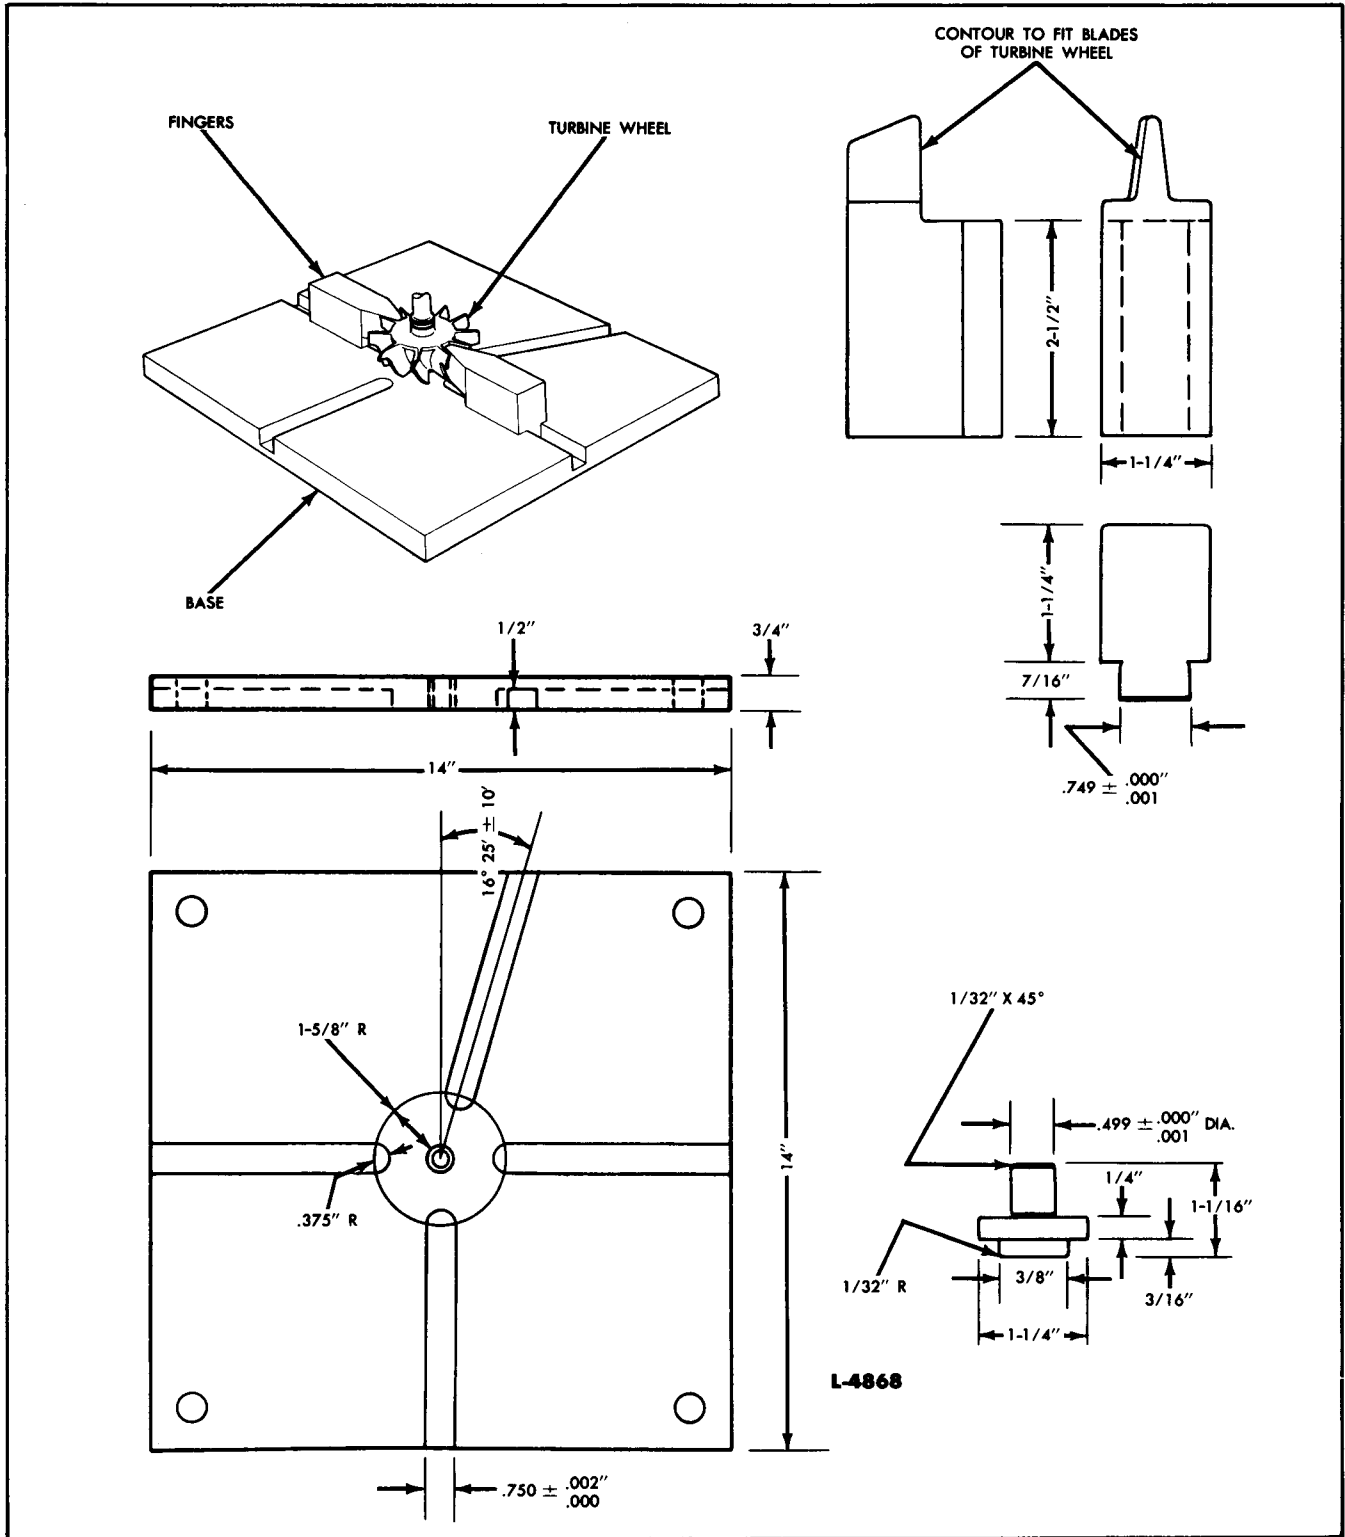

Fig. 8 · Turbocharger Holding Fixture
3. Position the turbine wheel (9) of the center housing assembly in a suitable holding fixture (Fig. 8). Remove the wheel nut (7) from the shaft.
12. Position the turbine wheel (9) of the center housing assembly in the holding fixture (Fig. 8).